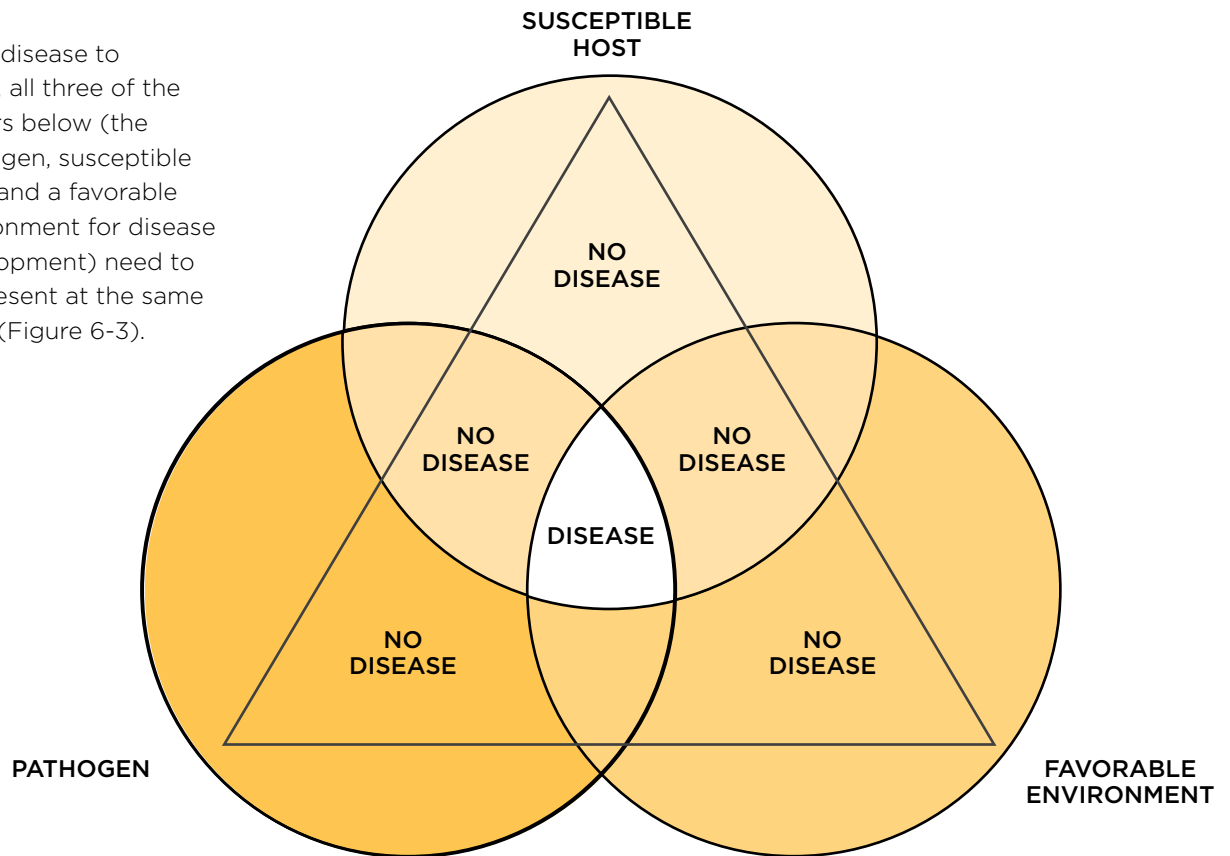

Figure 6-3: The disease triangle—disease occurs when all three factors co-exist.
- Use the Florida Weave method with tomato stakes or the Roller-Hook® system with strings (Figure 6-3).
For a disease to occur, all three of the factors below (the pathogen, susceptible host, and a favorable environment for disease development) need to be present at the same time. (Figure 6-3).